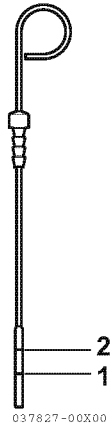

Figure 3
2. Fully reinsert dipstick (2, **Figure 3**) .
3. Remove the dipstick. The oil level should be between the upper (2, **Figure 3**) and lower (1, **Figure 3**) lines on dipstick.